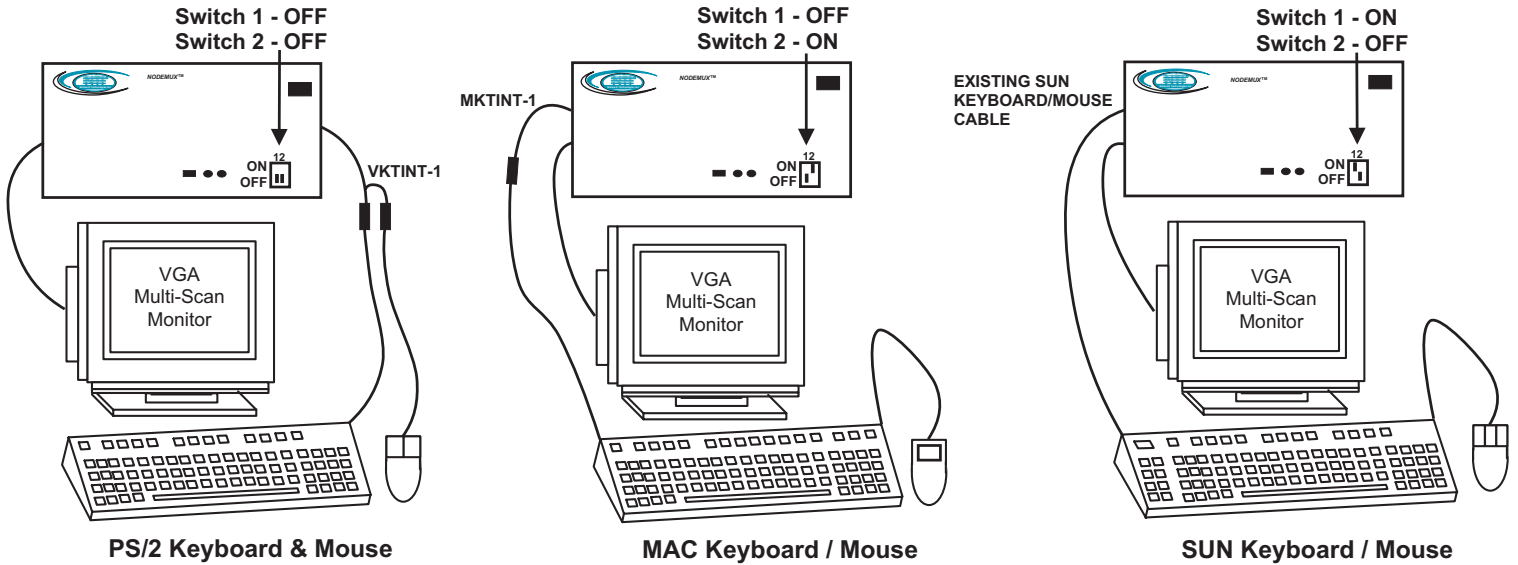

Figure 1- Keyboard dip-switch configuration
2. Configure the ST-2U for the keyboard type being used as per Fig. 1 below (SUN, PS/2 or MAC). The dip-switches on the front panel must be configured for the platform of the keyboard / mouse that will be used to operate the ST-2U. This action must be completed prior to powering up the ST-2U. Should it be necessary to replace the keyboard of one platform with a keyboard of a different platform, the dip-switches will need to be re-configured accordingly. To do this, first power down the ST-2U by following the proper Power-Down Sequence (see page 9). When power has been turned OFF, replace the keyboard, re-configure the switches, and then power-up, following the proper Power-Up Sequence (also on page 9). However, if replacing the keyboard with one from the SAME PLATFORM, it can be hot-swapped without powering-down.